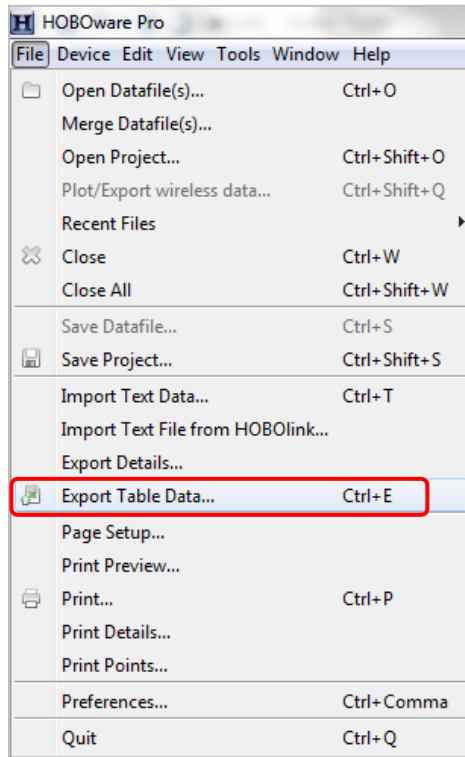

Figure A.8.16: File menu options.
3. Click “File” > “Export Table Data” (Figure A.8.16).